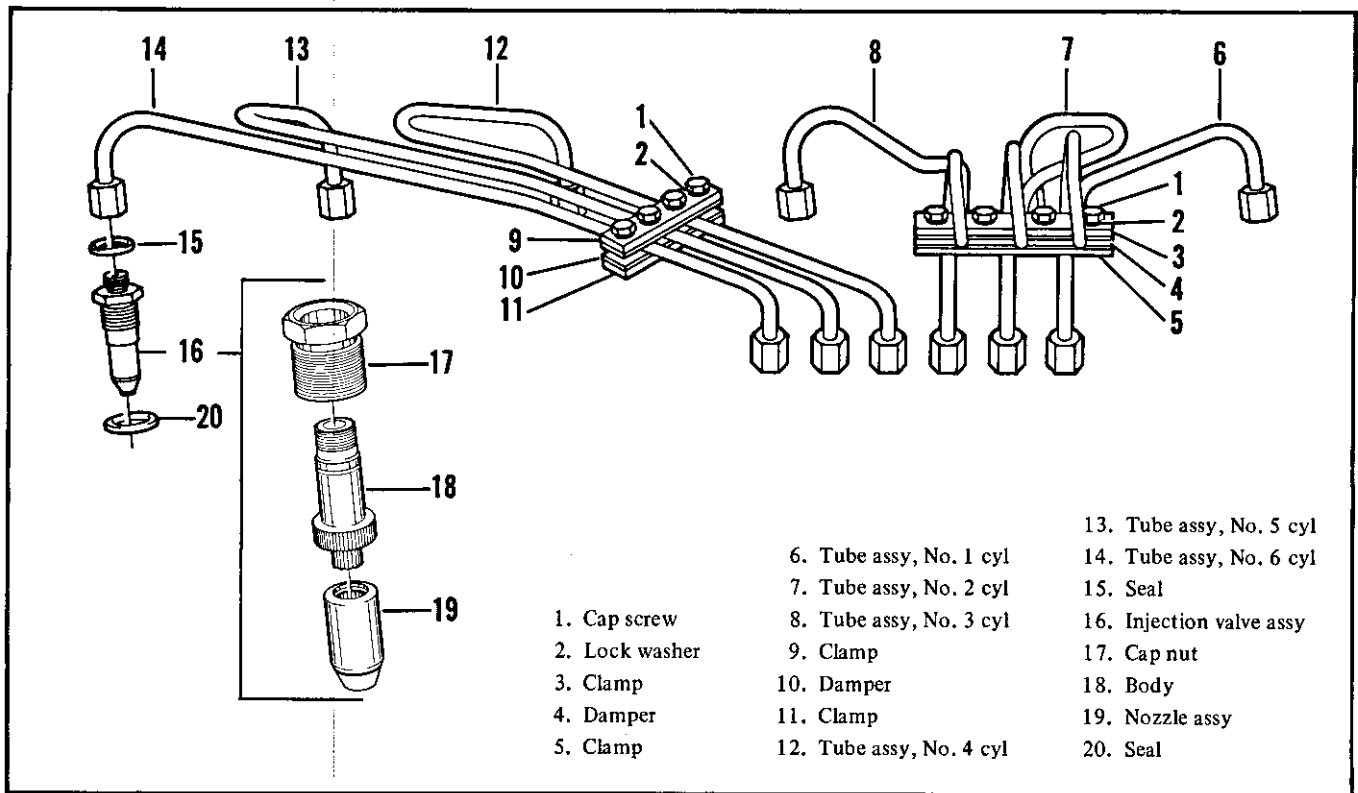

Figure 5-19. Fuel lines and fuel injection valves
5-34. FUEL LINES AND FUEL INJECTION VALVES (Figure 5-19). Remove cap screws (1), lock washers (2), clamps (3, 5, 9, 11), and dampers (4, 10). Loosen tubing nuts on each end of each fuel line tube assembly and remove tube assembly (6, 7, 8, 12, 13, 14). Remove seals (15). Unscrew and remove fuel injection valve (16) and seals (20). If necessary, remove cap nut (17) and nozzle assembly (19) from body (18). Assemble in the reverse of disassembly. Torque cap nut (17) to 100-110 pound-feet when assembling in engine. Tighten nozzle assembly (19) finger tight on body (18). Torque tube assembly nuts to 30 pound-feet on injection valves (16).